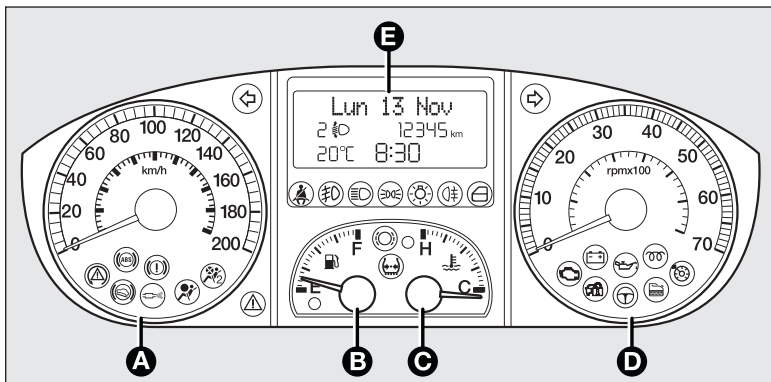

fig. 9
**Comfort fig. 9****A** – Speedometer**B** – Fuel level gauge with reserve warning light**C** – Engine coolant temperature gauge and excessive temperature warning light**D** – Rev counter**E** – Reconfigurable multifunctional display